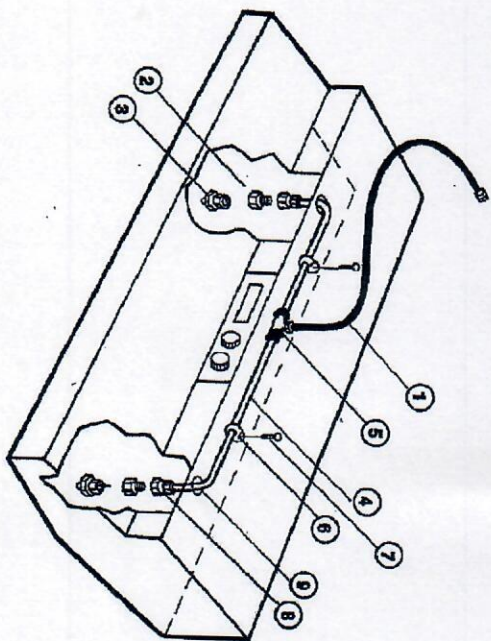

Figure 3
The piping kit consists of stainless steel tubing with a 90° bend, nozzle assemblies and other components identified with Figure 3. Hose assemblies shall not be modified. One (1) 3" diameter minimum loop can be formed in each length of hose for installations requiring unusual routing requirements.